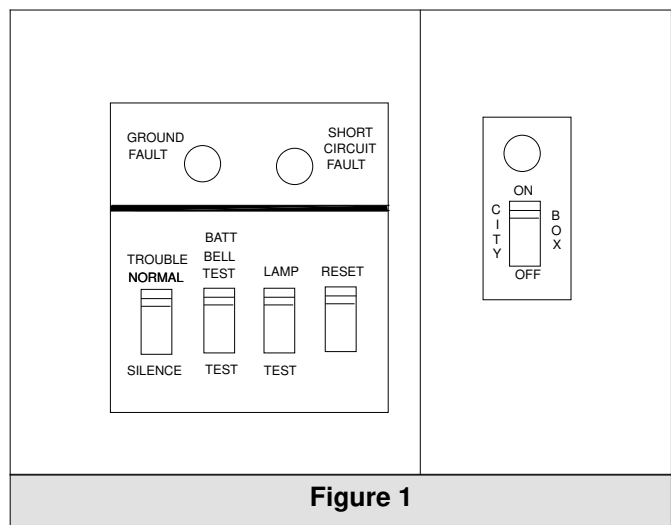

Figure 1
- **Trouble Silence Switch** (Fig. 1) This switch, when operated, will silence the System Trouble audible sounder. Upon correction of the trouble condition, the audible will sound again to indicate that the switch should be returned to the normal position.
- **Battery/Bell Test Switch** (Fig. 1) This switch, when operated, de-energizes the Transfer Relay disconnecting the power supply from the panel circuitry. It also energizes the alarm relay operating all local notification appliances from the stand-by batteries. Operating this switch will not reverse telephone lines or activate the city box output.
- **Lamp Test Switch** (Fig. 1) This switch, when operated, will light all red LED alarm indicators, all yellow LED trouble indicators on zone modules, and all Remote Zone Annunciators (RZAs). All alarm indicators are supervised.
- **Reset Switch** (Fig. 1) This switch, when operated, resets all zones from the alarm condition, as well as interrupting the Smoke Detector Power Output to reset the detectors. It will also cause all the yellow LED zone trouble indicators to light.
- **City Box Disconnect Switch** (Fig. 1) This switch, when operated, will disable the City Box Output and/or Polarity Reversal Output (**JRR** must be cut for Polarity Reversal disabling). The yellow LED above the switch will light, and a System Trouble will occur when the switch is in the **OFF** position, or when the control is in the alarm mode. The yellow LED will remain lit until the master box and the control are reset.